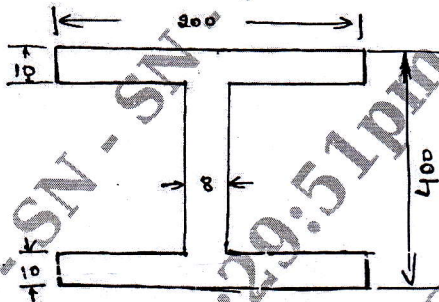

Fig. Q7 (b)
b. The cross section of a beam is as shown in Fig. Q7 (b). If permissible stress is 150 N/mm^2 find its moment of resistance. Compare it with equivalent section of the same area for a square section. (10 Marks)